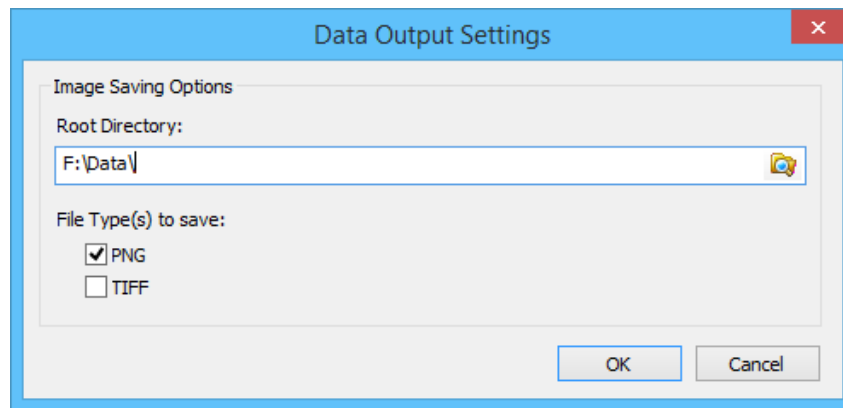

Figure 58: Completed Data Output Settings
3. At this point your dialog box should look like the one in Figure 58.